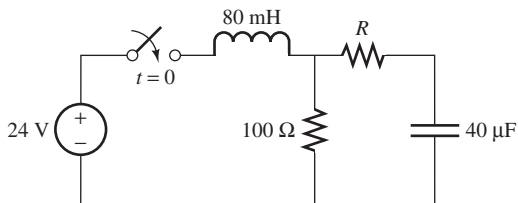

FIGURE P5.46 Circuit for Problem 5.46.
- 5.46 (H)* The switch in Figure P5.46 closes at $t = 0$. Determine whether $v_C(t)$ is underdamped, critically damped, or overdamped if $R = 80 \, \Omega$.